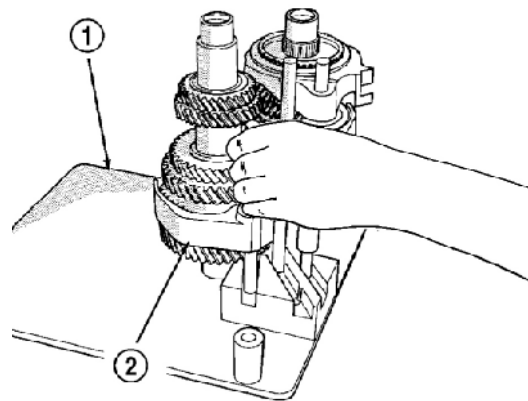

Figure 3-61 Assembly of transmission fork shaft
(2) Insert transmission fork shaft and fork in the plate jig (Figure 3-61).